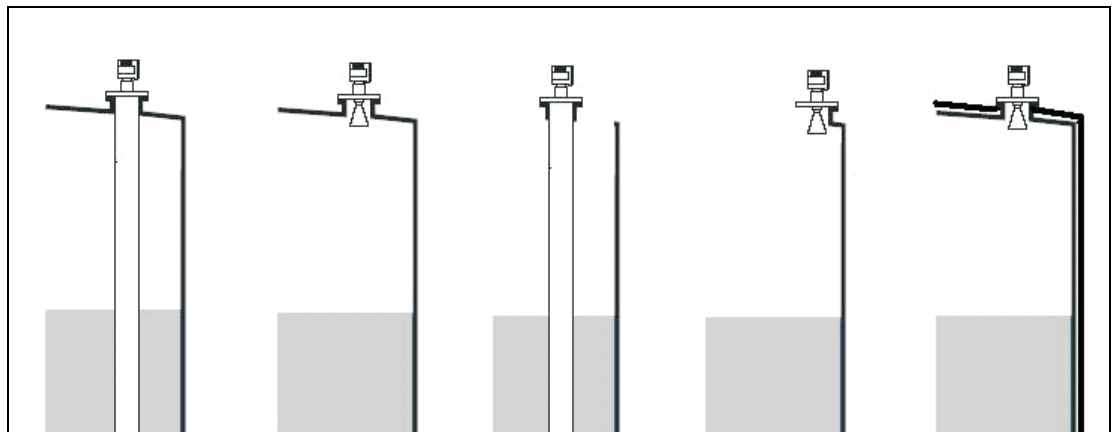

Figure 3-15: Different types of Tank
- a. Figure 3-15 on page 29
Figure 3-15 on page 29 shows the four different types of tank, and Table 3-1 gives the value of the two parameters T_D and T_w for each type of tank.